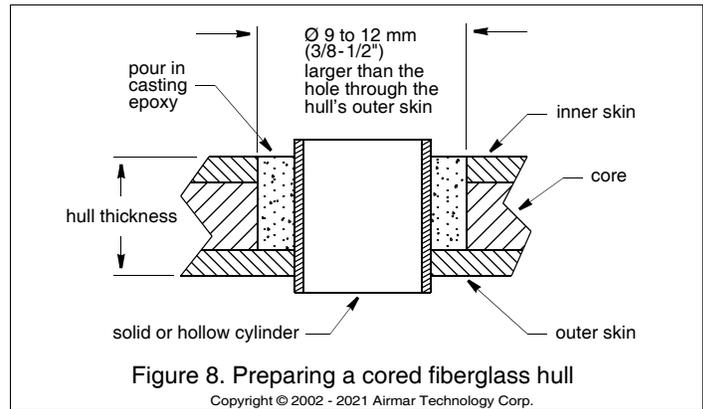

Figure 8. Preparing a cored fiberglass hull
2. Using a $\text{Ø } 51\text{ mm}$ or $2"$ hole saw, cut the hole from outside the hull through the *outer* skin only (Figure 8).